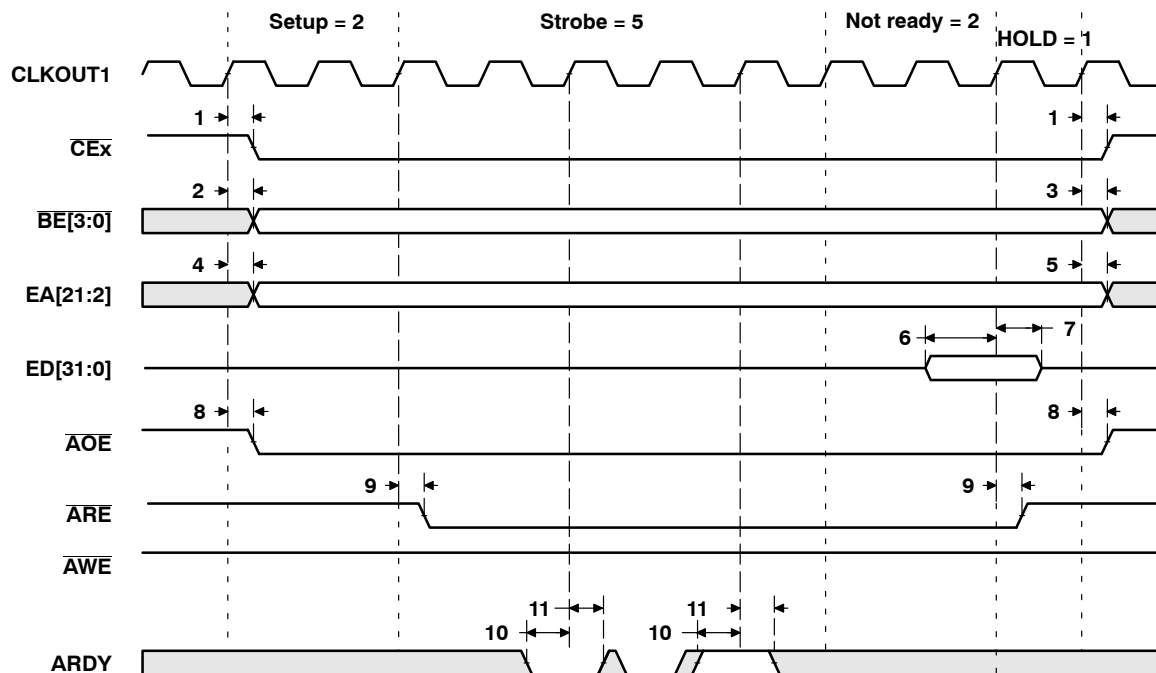
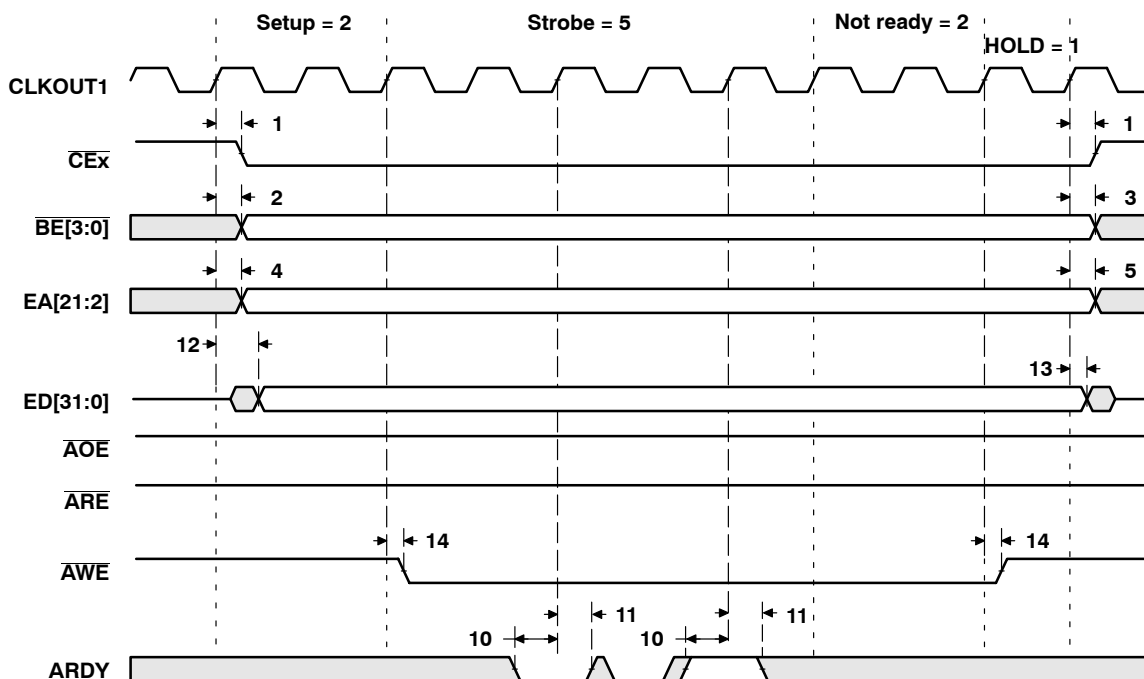

Figure 14. Asynchronous Memory Read Timing
Figure 15. Asynchronous Memory Write Timing
**timing requirements for asynchronous memory cycles† (see Figure 14 and Figure 15)**
**switching characteristics for asynchronous memory cycles‡ (see Figure 14 and Figure 15)**